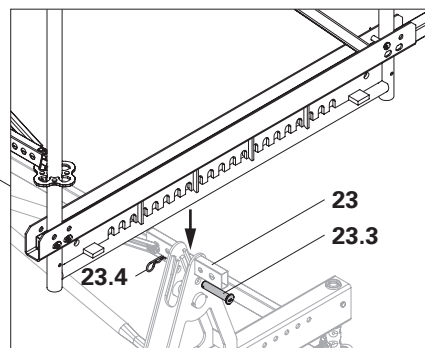

Fig. A7.04a
Remove bolts \varnothing 24 (23.3) and cotter pins 5/1 (23.4) on the Bearer URS (23). (Fig. A7.04a)
1. Raise the girder package with the crane and place in the Bearer URS (23). (For attachment points, see Section A4.) (Fig. A7.04a)